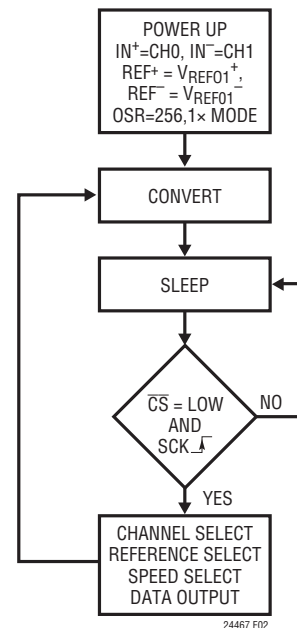

Figure 2. LTC2446/LTC2447 State Transition Diagram
The LTC2446/LTC2447 are multichannel, multireference high speed, delta-sigma analog-to-digital converters with an easy to use 3- or 4-wire serial interface (see Figure 1). Their operation is made up of three states. The converter operating cycle begins with the conversion, followed by the low power sleep state and ends with the data output/input (see Figure 2). The 4-wire interface consists of serial data input (SDI), serial data output (SDO), serial clock (SCK) and chip select (CS). The interface, timing, operation cycle and data out format is compatible with Linear's entire family of  $\Delta\Sigma$  converters.